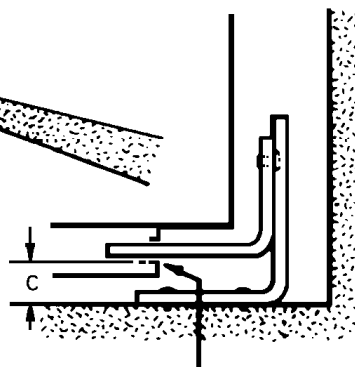

Fig.2b
3. Draw a line 100mm from the front edge of the levelling feet (see Fig 2a) and remove appliance from its position. Mark off dimension 'B' (see Fig 2a) back from this line on the centre line of the bracket to locate the front edge of the lower bracket. Fix lower bracket (with two fixing holes) to the floor then measure the height from floor level to engagement edge on back of appliance, dimension 'C' of Fig. 2b.
Reposition appliance and check that top bracket engages into appliance back as shown in Fig. 2b.